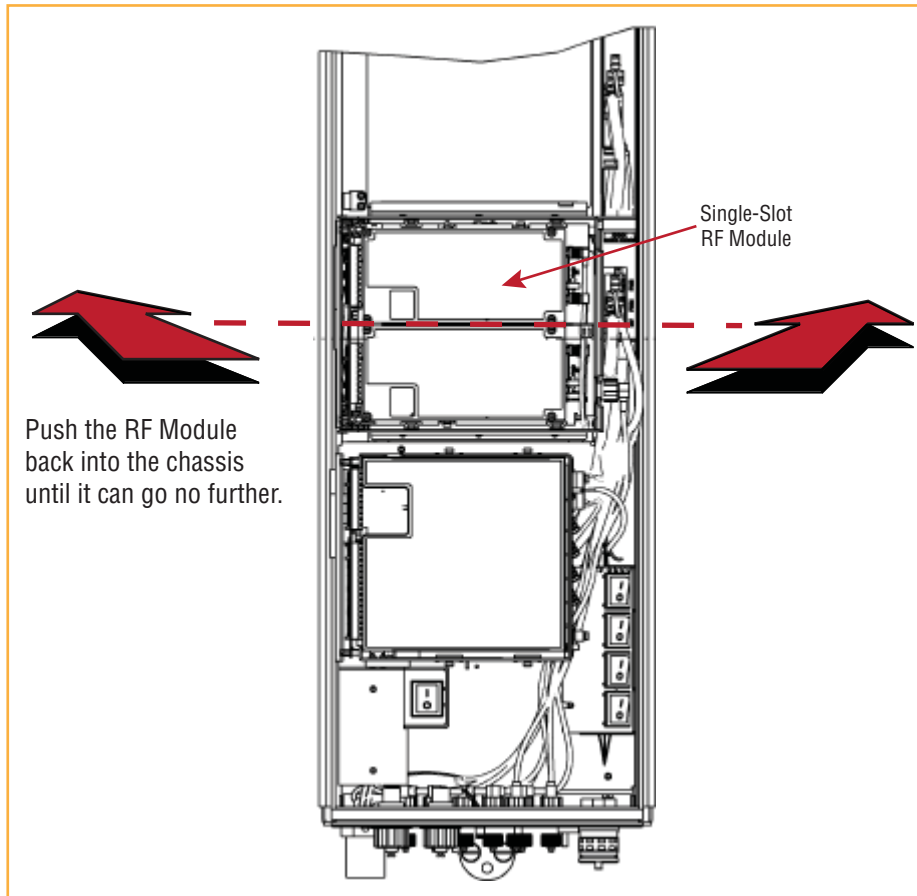

Figure 15. Seating a Single-Bay RF Module
- For Single-Bay RF Modules, see Figure 15 on page 30.